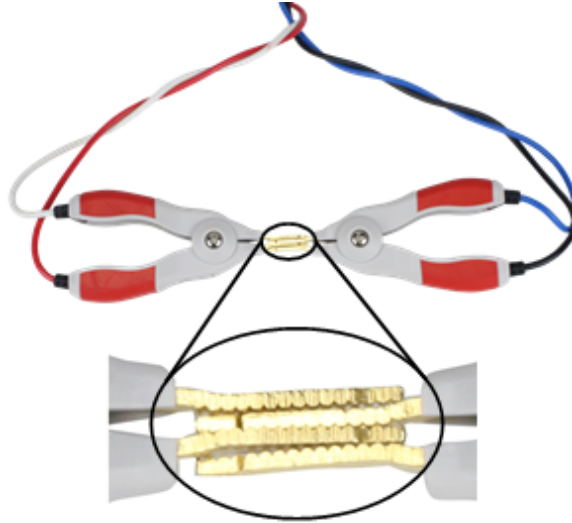

Figure 3.8: Zeroing the kelvin clip leads
2. Clip both clips together to create a short. Figure 3.8